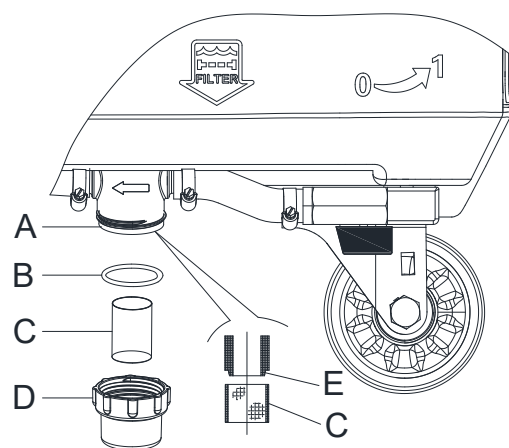

Figure 11
4. Remove the cover (D, Figure 11), then remove the filter strainer (C). Clean and install them on the support (A).
The filter strainer (C, Figure 11) must be correctly positioned on the housing (E) of the support (A).